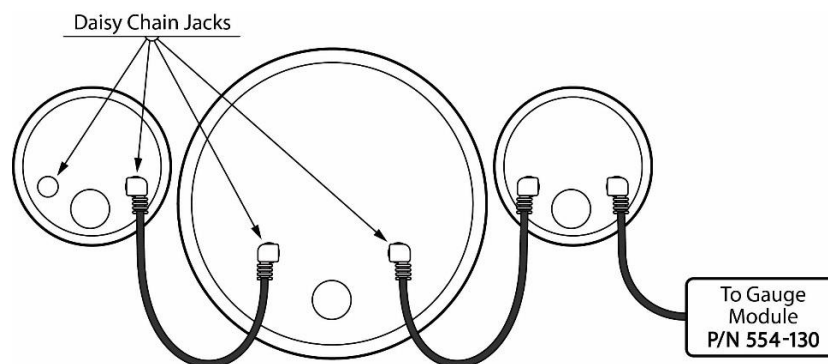

Figure 2
Figure 2 shows the daisy chain wiring diagram. The gauges can be daisy chained in any order.
4. Daisy chain the gauges together in any order with the included stereo cables. Connect gauge module (P/N 554-130) as shown in **Figure 2**. Longer stereo cables are available separately in 1 ft. (P/N 553-143) and 3 ft. (P/N 553-144) lengths to accommodate applications where the included 6" cables will not reach.